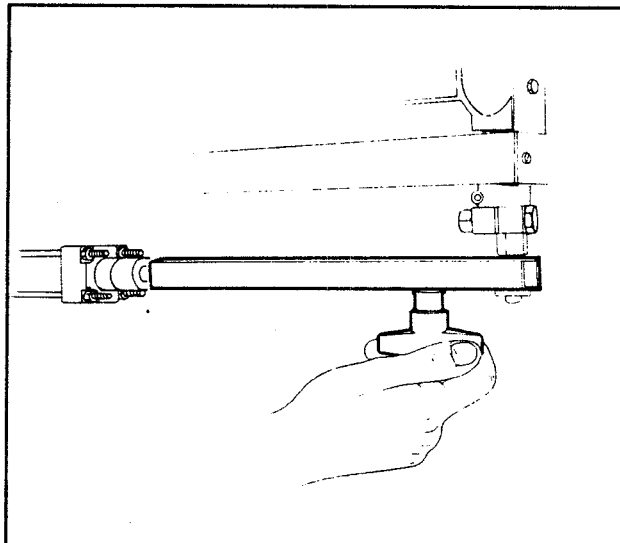

FIGURE 24 - HAND KNOB
BOX WIDTH RANGE - The operating range of the side guides can be reduced to minimize their movement to the range of box widths being sealed. Therefore, the operating speed can be significantly increased. The range is established by limiting the open position of the side guide air cylinder. After establishing the maximum box width, position the side guides as follows (refer to Figures 24 and 25):
- 2) Loosen the hand knob, shown in figure 24, on the air cylinder rod which is located under the infeed conveyor.